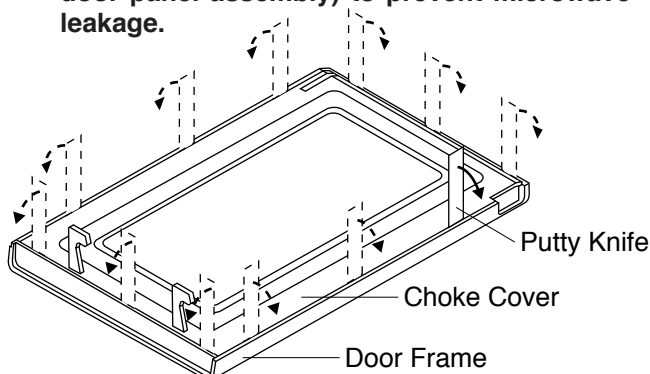

Figure C-7. Door Disassembly
3. Insert a putty knife (thickness of about 0.5mm) into the gap between the choke cover and door frame as shown in Figure C-7 to free engaging parts.